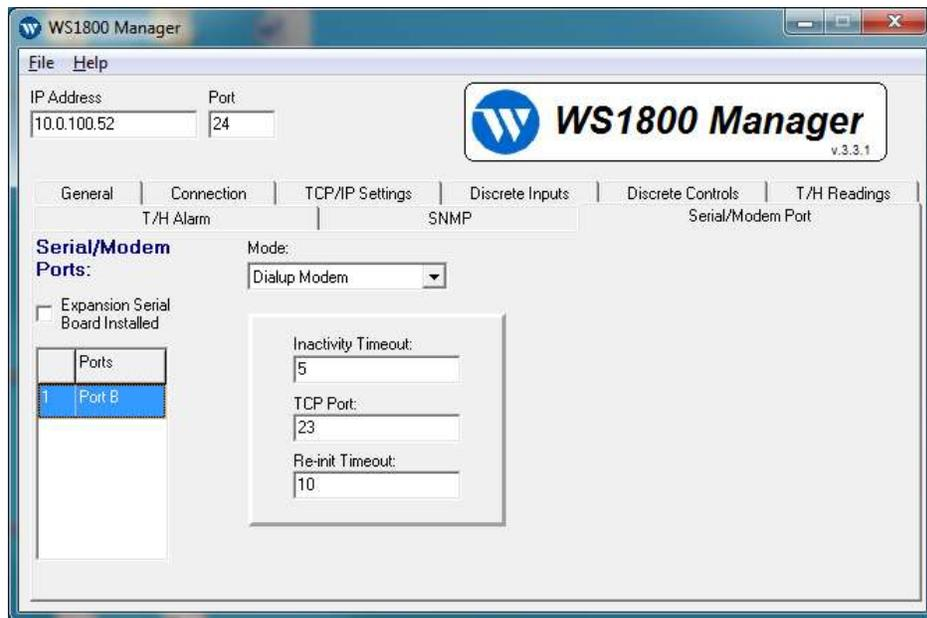

Figure 41 – Port B Dialup option selected without Dialup license
3. If the unit is licensed for and equipped with a dialup modem, the above menu will be available with the following items which can be configured. If it does not have a dialup license, this menu will not appear and Dialup Modem parameters will look like figure 41 which appears later in this document.
4. Figure 41 below shows the Port B, Dialup Modem dropdown option when unit does NOT have dialup license (default). This option for port B is to be used with CDMA, LTE and HSPA modem connectivity for units so equipped. For units without one of these modems, choosing this option will render the RJ-11 MDM/Serial port of the WS1800 inactive.